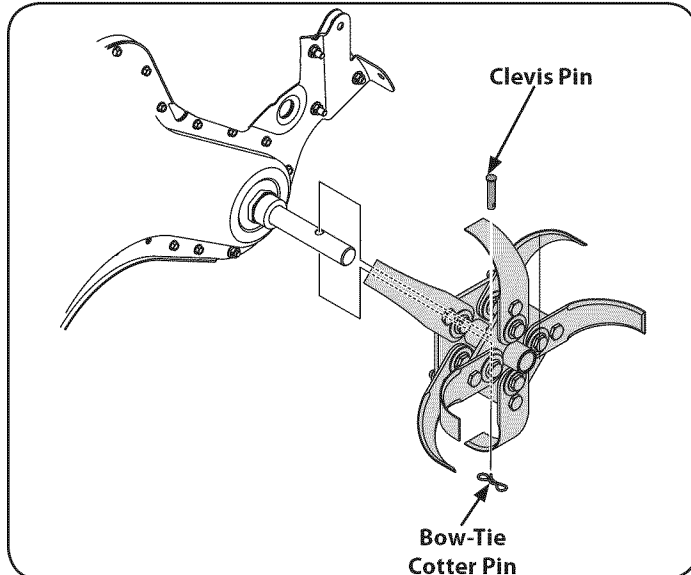

Figure 27
3. To remove a tine assembly, simply remove the bow-tie cotter pin securing the clevis pin. See Figure 27.